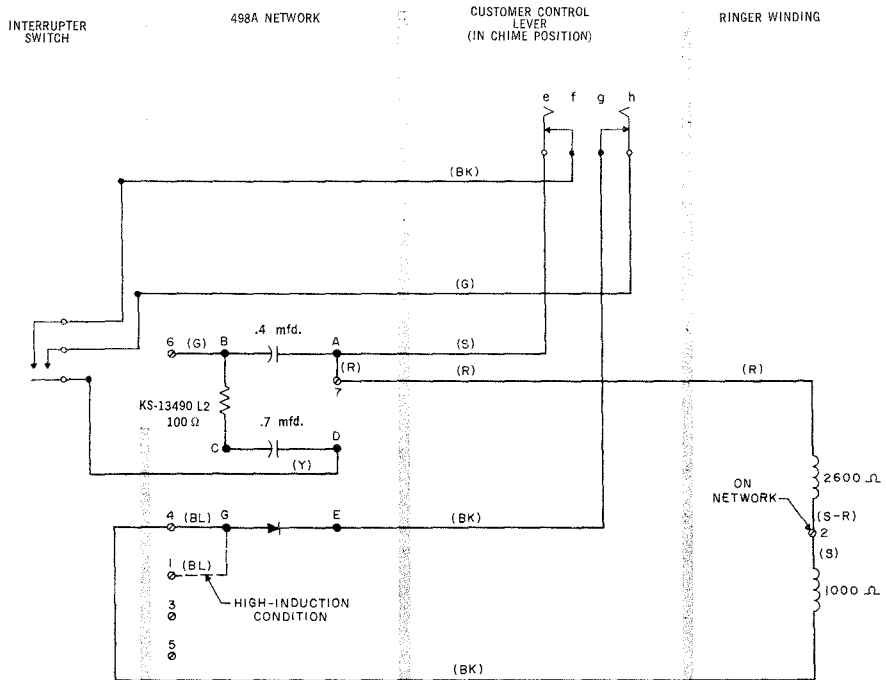

Fig. 7 — QCY1A1 Bell Chime — Schematic
7.03 Table B gives connections for the Bell Chime. A circuit drawing is shown in Fig. 7.